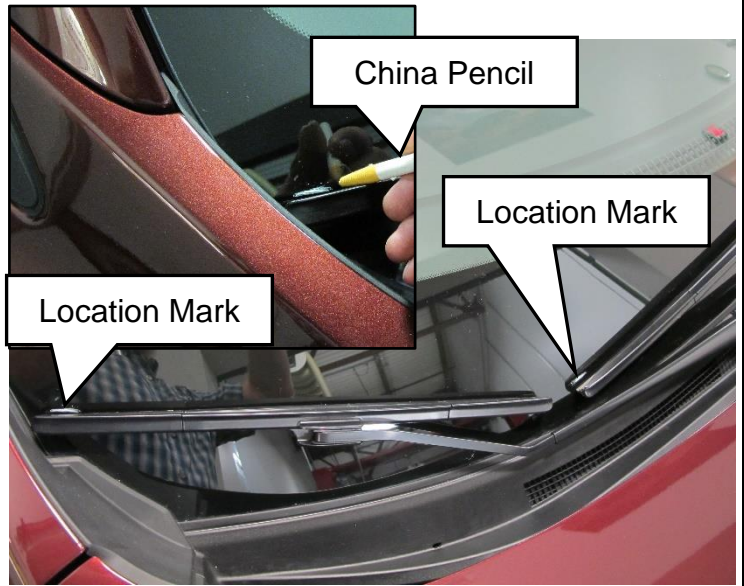

Figure 1
1. Mark the location of the wiper blades on the windshield (Figure 1).